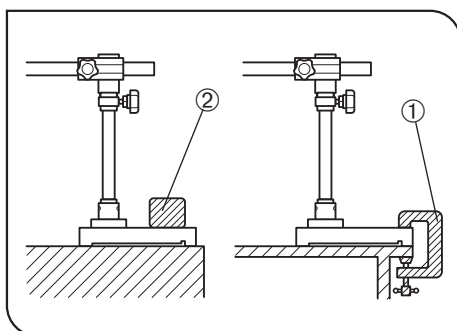

Fig. 3
4. When a wide space is required in front of the microscope, the horizontal arm should often be oriented in the rear 120° range and the stand tends to topple down easily. In this case, fix the stand firmly by using a table clamp ① or placing a weight (3 kg or more) ② on the base plate. (Fig. 3)